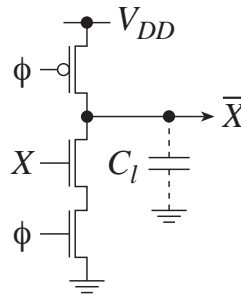

Figure 2. Precharged inverter.
4. A precharged inverter is shown in Figure 2. The input  $X$  has the one's probability  $P_x$ , the power supply voltage is  $V_{DD}$ , the clock frequency is  $f_{clk}$ , and the load capacitance is  $C_l$ . A MOSFET has the gate capacitance  $C_g$ .